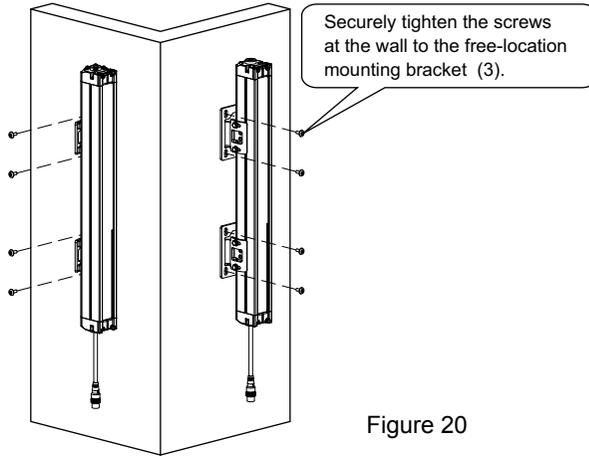

Figure 20
- Securely tighten the screws at the wall to the free-location mounting bracket (3). (Figure 20)